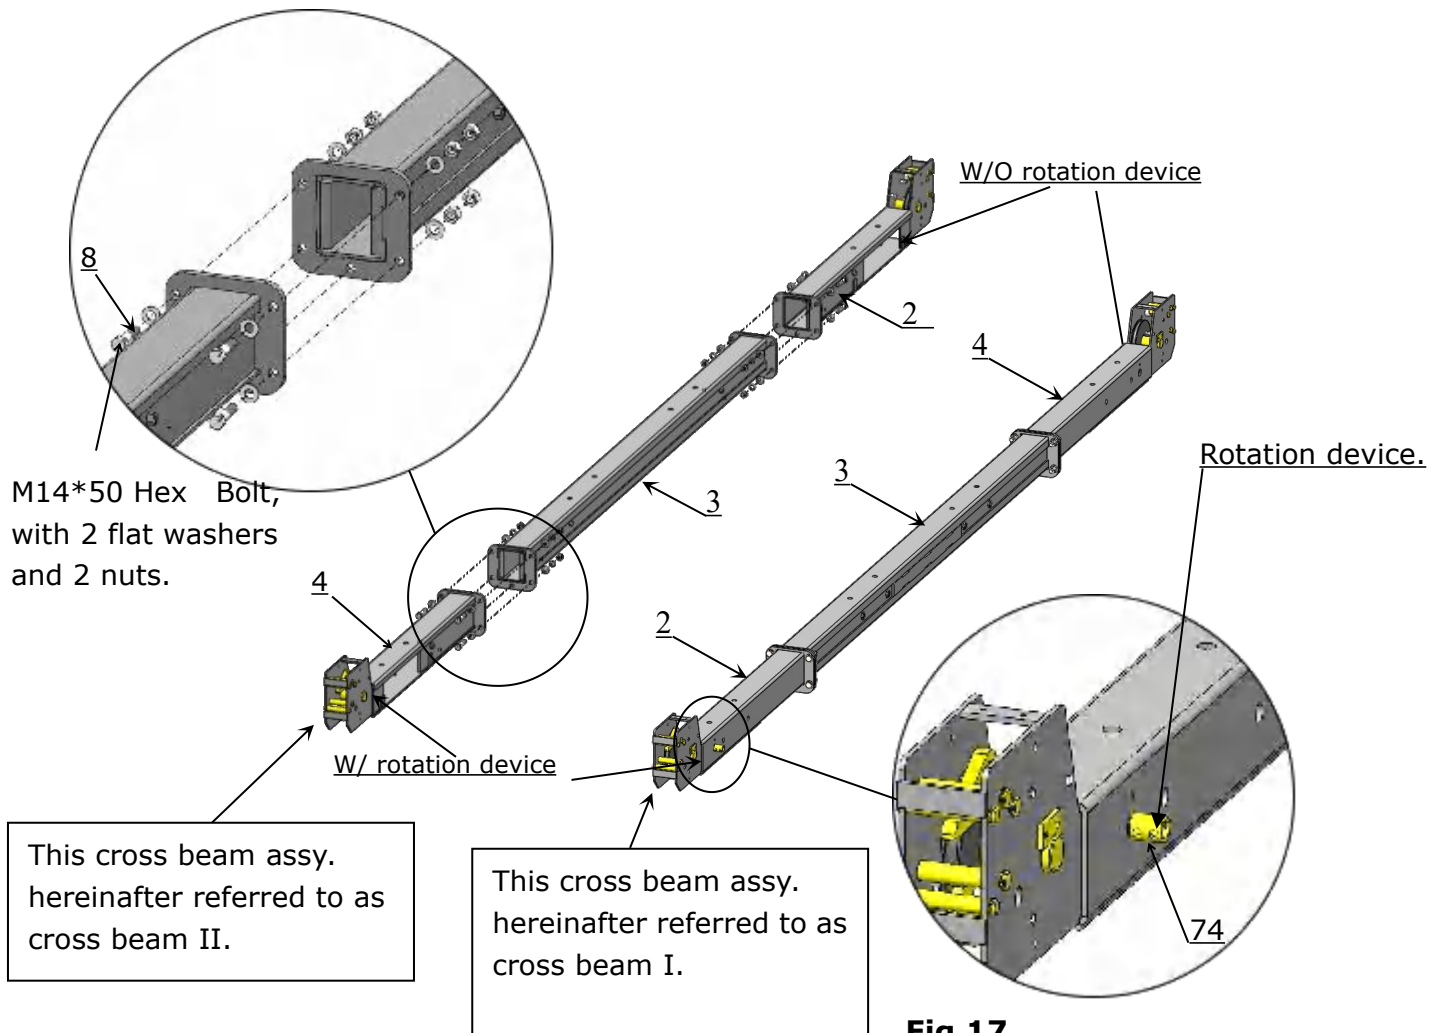

Fig.17
2. Install cross beam assy. See fig 17.